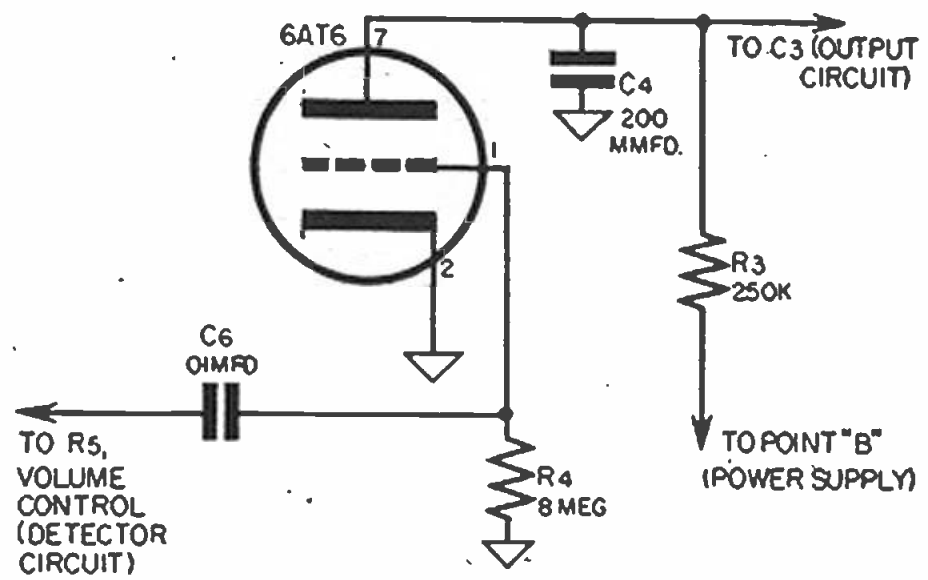

Fig. 8-27. First audio circuit.
d) First Audio Circuit. See Figure 8-27.